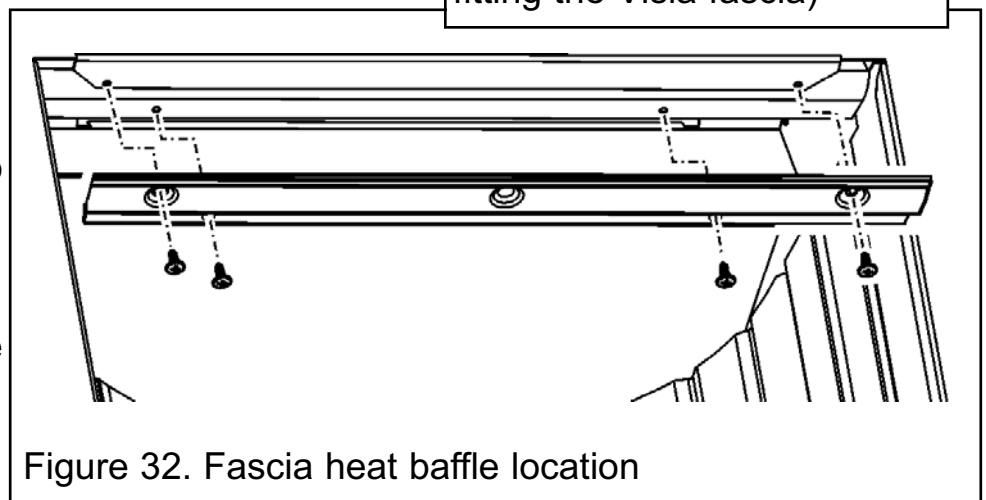

Figure 32. Fascia heat baffle location
4. Supplied with the fire is a heat baffle. This baffle must be fitted to the underside of the spillage hood. Secure the baffle to the underside of the spillage hood using the two screws supplied (See figure 32). The centre hole does not require a screw.